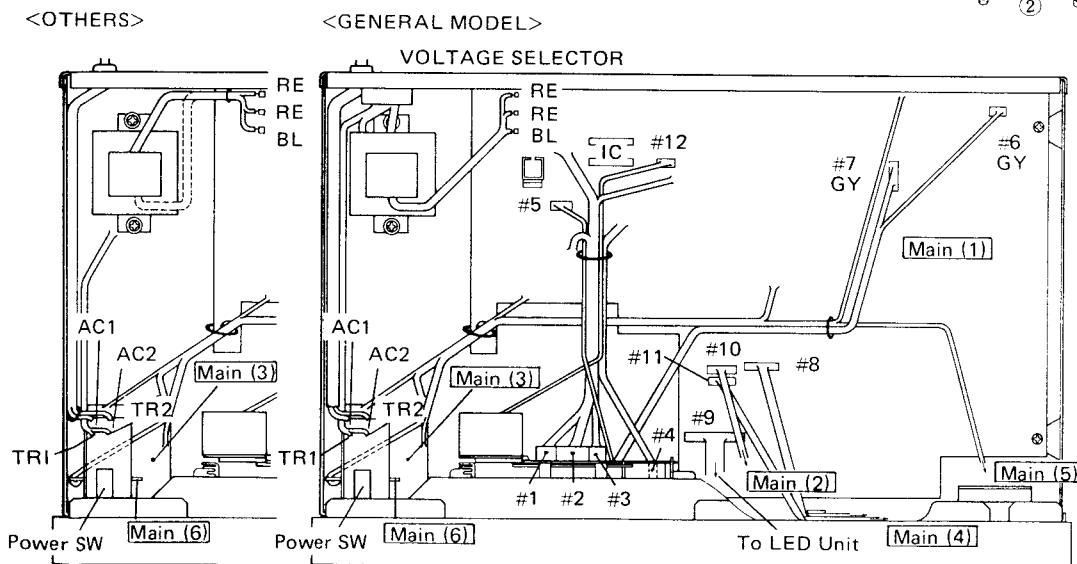

Fig. 2
b. Detach 4 connectors (#8, #9, #10, #11) in fig. 2.
- Detach 8 connectors (#1, #2, #3, #4, #5, #6, #7, #12) in fig. 2.